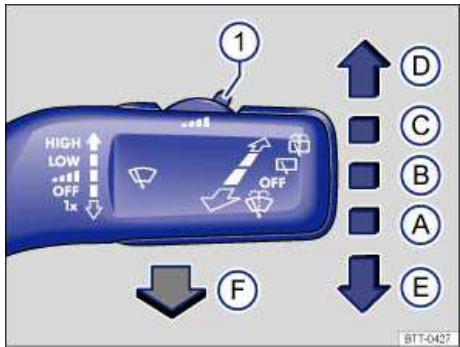

Fig. 90 Operating the front windshield wiper.
- Press the windshield wiper lever down briefly ⇒ fig. 90 (E) when the ignition is off.
Carefully fold the wiper arms back onto the windshield before driving! Switch the ignition on and press the windshield wiper lever down briefly ⇒ fig. 90 (E). The wiper arms move back to their original position.